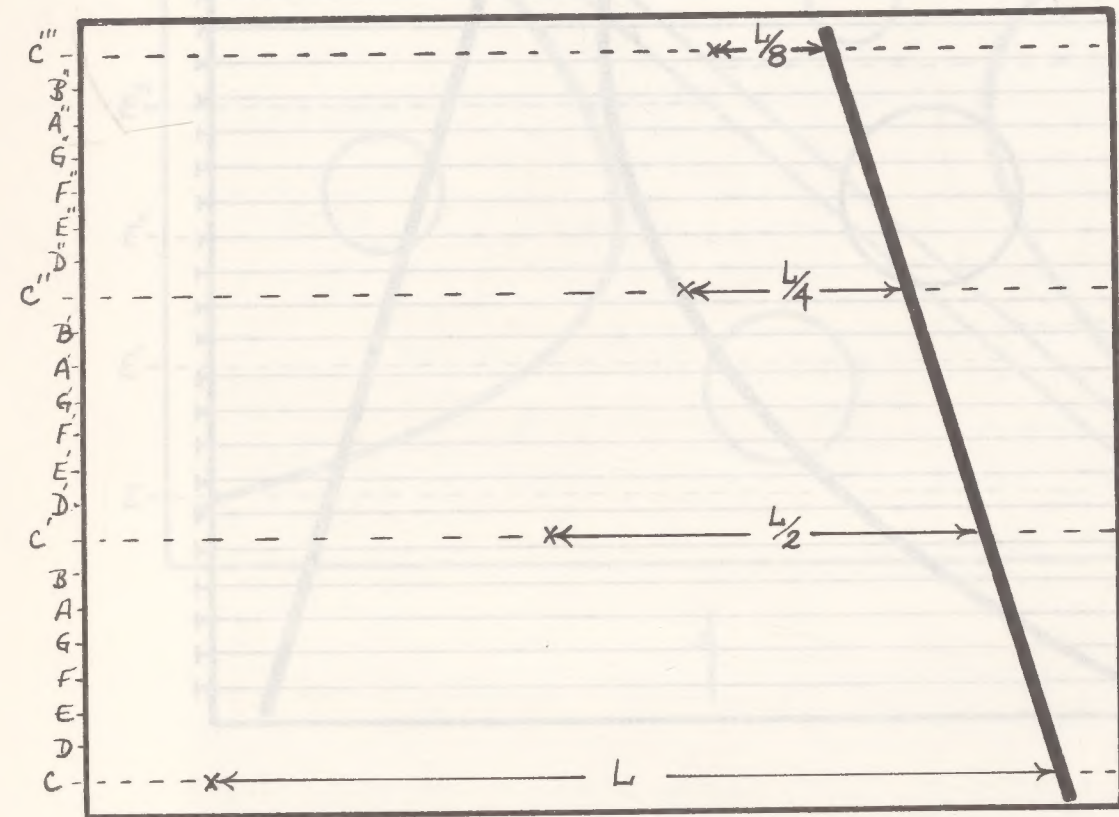

Figure 22: Early stage of planning the psecond bridge for the psaltery.
- 3) The string lengths for the succeeding higher octave notes were then measured off from the straight bridge, and parallel to the longest string, allowing sufficient space for the strings in between. Assuming the longest string length vibrating was L , the first few octave string lengths should be L , $L/2$, $L/4$, $L/8$, $L/16$, etc. (see fig. 22)